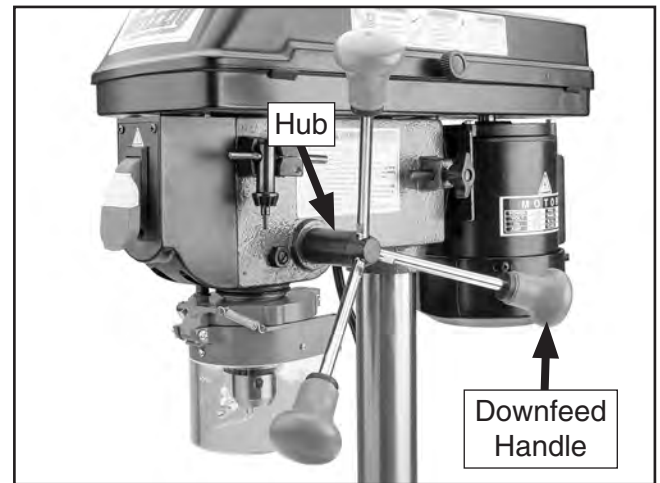

Figure 10. Downfeed handles installed in hub.
17. Thread (3) downfeed handles into downfeed hub, as shown in **Figure 10**.